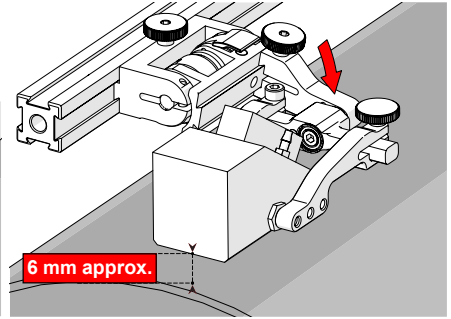

Fig. 84 - Lower to scanning surface
2. Push the probe holder yoke down toward the inspection surface until the wedge is approximately 6 mm ( $\frac{1}{4}$  in) above the inspection surface (Fig. 84).